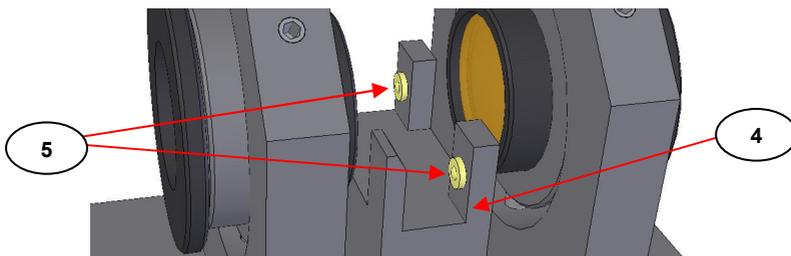

Fig 2. Sample Support Plate and Ball Spring Catches of the Microfocus Beam Condenser
The DC-3 diamond compression cell accessory fits into the central sample support block (4) of the microfocus beam condenser (1). There are two ball spring catches (5) in the support block (4) that locate with the two grooves (6) that have been milled into the outer surface of the lower support plate (7) of the DC-3 accessory. (See Figs 2. and 3.)